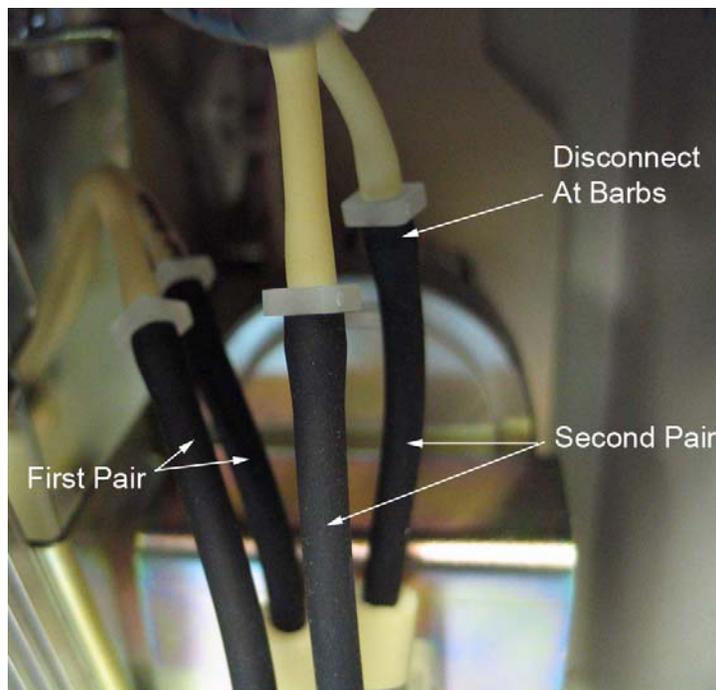

Figure 43: The Sample Pump Tubing Connections
9. Swap the two pairs of connections leading to the sample pump tubing at the plastic barbs (see Figure 43). The first pair of tubes (on the left) should be connected to the barbs that normally connect to the second pair of tubes (on the right). The second pair of tubes (on the right) should be connected to the barbs that normally connect to the first pair of tubes (on the left).